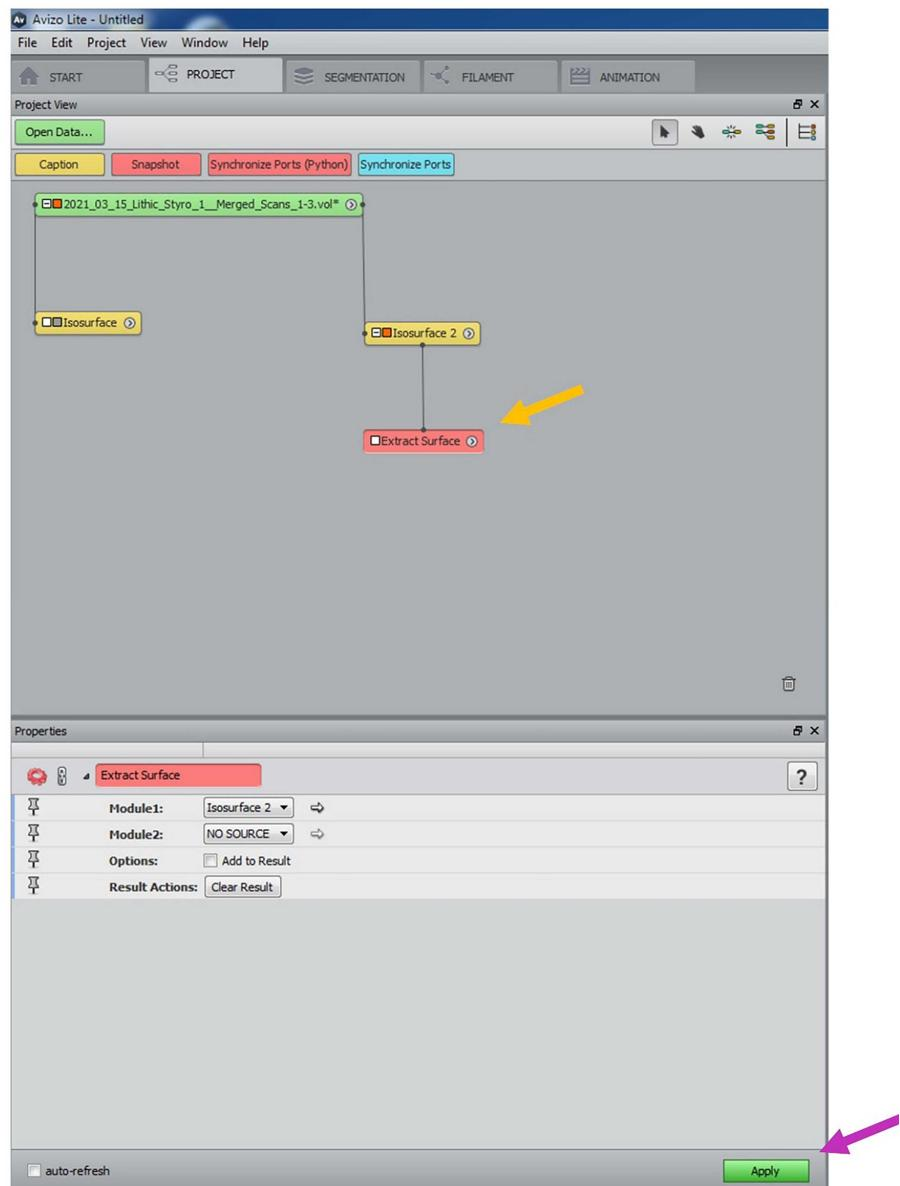

Fig. 20: Newly created 'Extract Surface' label from Isosurface.
24.3 Select the newly created label called 'Extract Surface' (orange arrow in Fig. 20).
24.4 Leave all parameters in the 'Extract Surface' menu as is and click 'Apply' to generate extracted surface (pink arrow in Fig. 20).